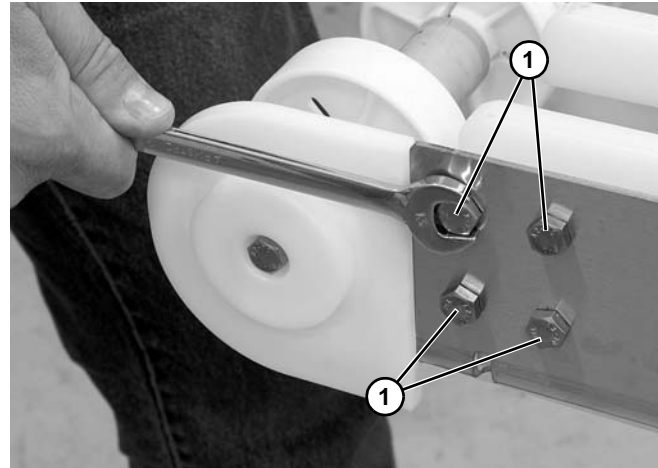

Figure 55
- Remove the four headplate screws (**Figure 55, item 1**) on both sides of the conveyor.